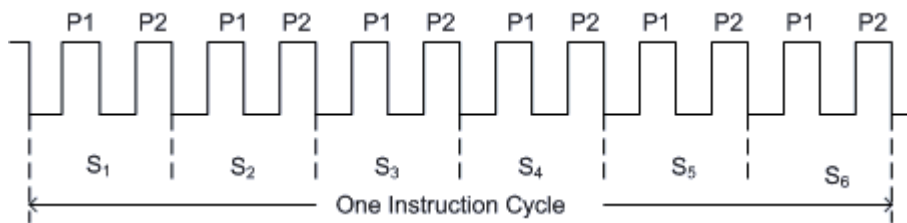

Fig 1.9 Clock Cycle Of 8051
In 8051, the crystal oscillator generates clock cycles. Depending upon the frequency of crystal the clock cycle time varies. The diagram shows 12 clock cycles. Machine cycle consists of twelve (12) clock cycles. Combination of one on- time and one off- time pulse is referred as cycle. One instruction cycle consists of one or more machine cycles .The instruction cycle is also called as Machine cycle. Shown in the Fig 1.9 Clock Cycle Of 8051.